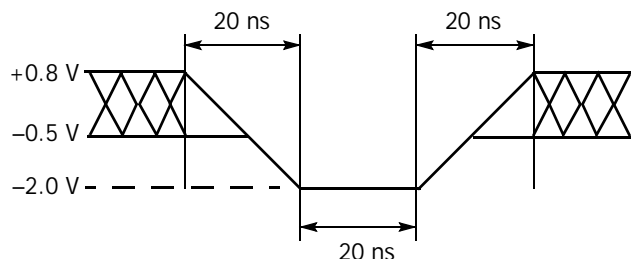
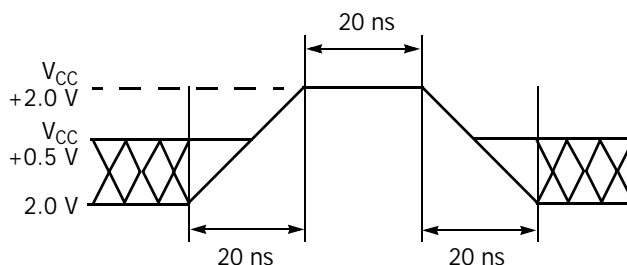

Figure 9. Maximum Negative Overshoot Waveform
Figure 10. Maximum Positive Overshoot Waveform
1. Minimum DC voltage on input or I/O pins is –0.5 V. During voltage transitions, input or I/O pins may overshoot V_{SS} to –2.0 V for periods of up to 20 ns. See Figure 9. Maximum DC voltage on input or I/O pins is $V_{CC} + 0.5$ V. During voltage transitions, input or I/O pins may overshoot to $V_{CC} + 2.0$ V for periods up to 20 ns. See Figure 10.
2. Minimum DC input voltage on pins A9, OE#, and RESET# is –0.5 V. During voltage transitions, A9, OE#, and RESET# may overshoot V_{SS} to –2.0 V for periods of up to 20 ns. See Figure 9. Maximum DC input voltage on pin A9 is +12.5 V which may overshoot to 14.0 V for periods up to 20 ns.